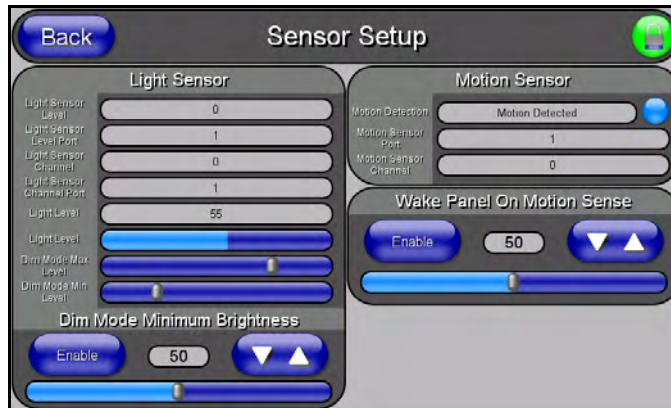

FIG. 69 Sensor Setup page
The Sensor Setup page (FIG. 69) allows you to adjust the Light and Motion Sensor parameters on a Modero touch panel.
3. Open the Sensors Setup page (FIG. 69) from the Protected Setup menu section.